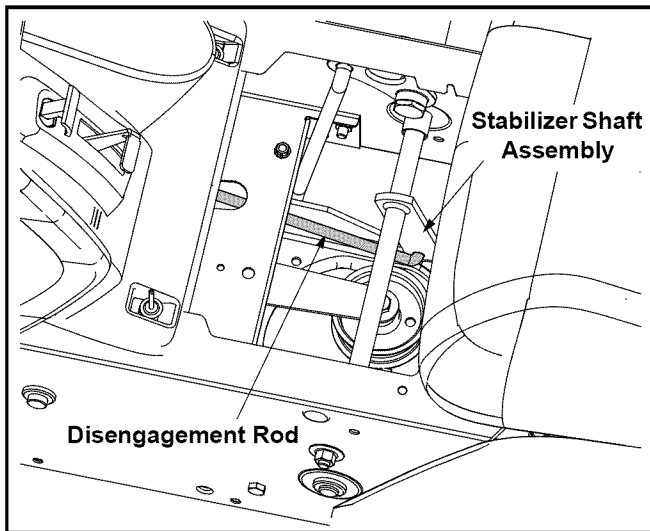

Figure 17
- Remove the cover panel and locate the deck disengagement rod. See Figure 17.
- Remove the hairpin clip which secures the disengagement rod to the stabilizer shaft assembly. See Figure 17.